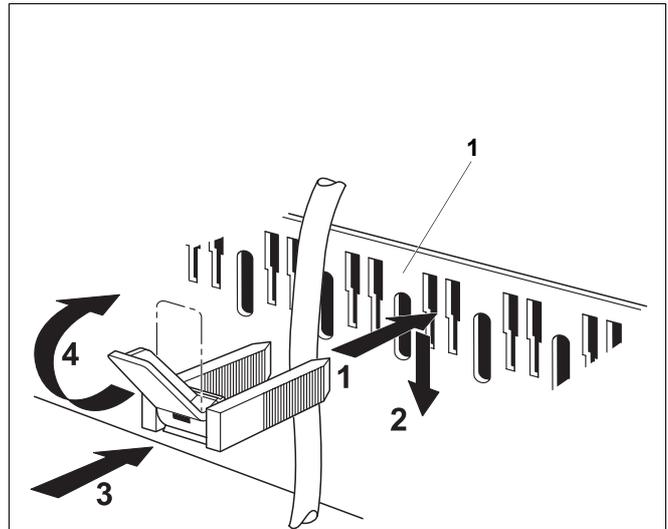

Fig. 16 Secure the cable with a cable clips
- Insert the cable clip with inserted cable from above into the clip frame slots (Fig. 16, **item 1**); the lever must point upwards (Fig. 16, step 1).
- Push the cable clip down (Fig. 16, step 2).
- Push against the clip (Fig. 16, step 3).
- Toggle the lever up (Fig. 16, step 4).